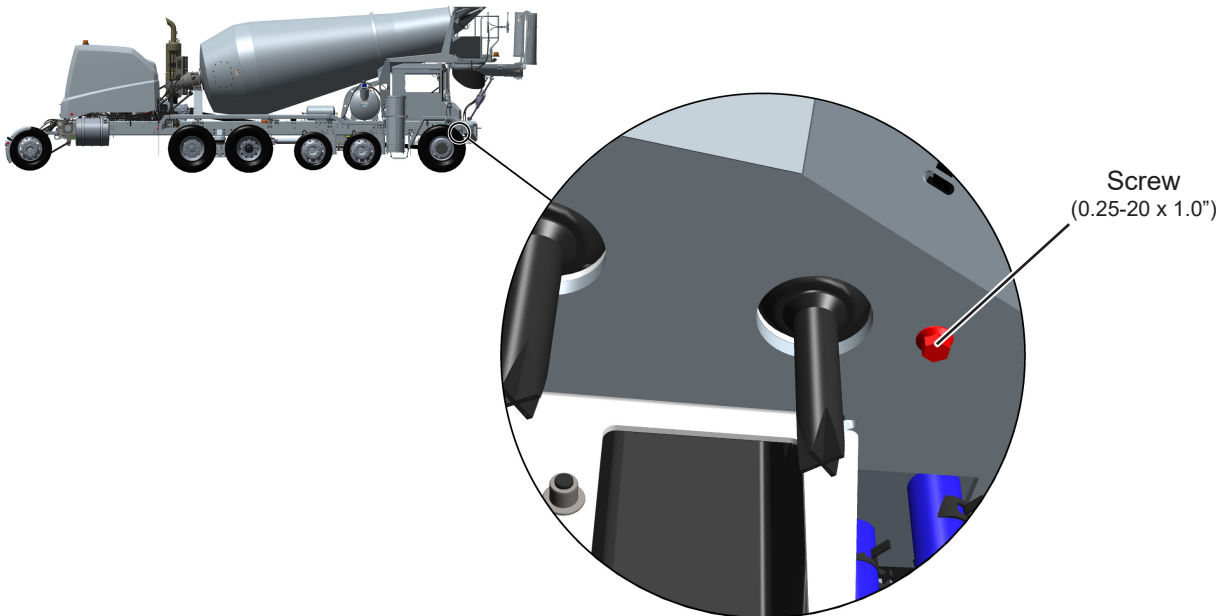

Figure 7. HVAC Drains
10. Locate the 0.25-20 x 1.0" mounting screw on the bottom of the cab in front of the forward drain. See Figure 7.